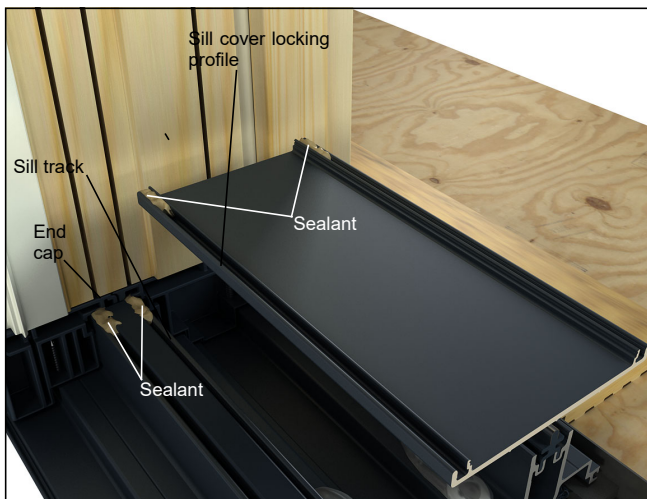

Figure 28
6. At the end of each roller track (adjacent to end caps), place a bead of sealant at each side. Place a bead of sealant within the locking profile at the end of all sill covers (next to end caps). See figure 28.